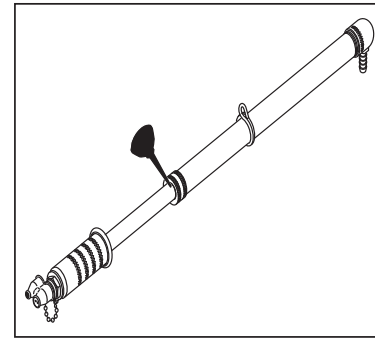

Figure 9.
2. Apply a few drops of light oil or grease at the gland nut to ease the pump operation. **See Figure 9.**